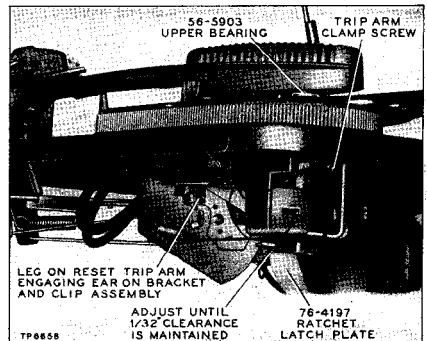

Figure 35. Trip-Switch Adjustment
With the tone-arm on the rest post, the mercury switch attached to the bracket-and-clip assembly, Part No. 76-4195, should be in a horizontal or ON position, as shown in figure 8. To adjust, loosen the reset-trip-arm clamp screw (figure 35), and while holding the tone arm on the rest post, move the trip arm until the leg on the reset trip arm engages the bracket-and-clip assembly, and at the same time, the long ear of the bracket and clip is approximately  $\frac{1}{32}$ " above the cut-out notch on the ratchet-plate assembly, Part No. 76-4197, as shown in figure 35.
b. Remove "E" washer, Part No. 1W60981FE7, from bearing shaft mounted on tone-arm stanchion (figure 35).